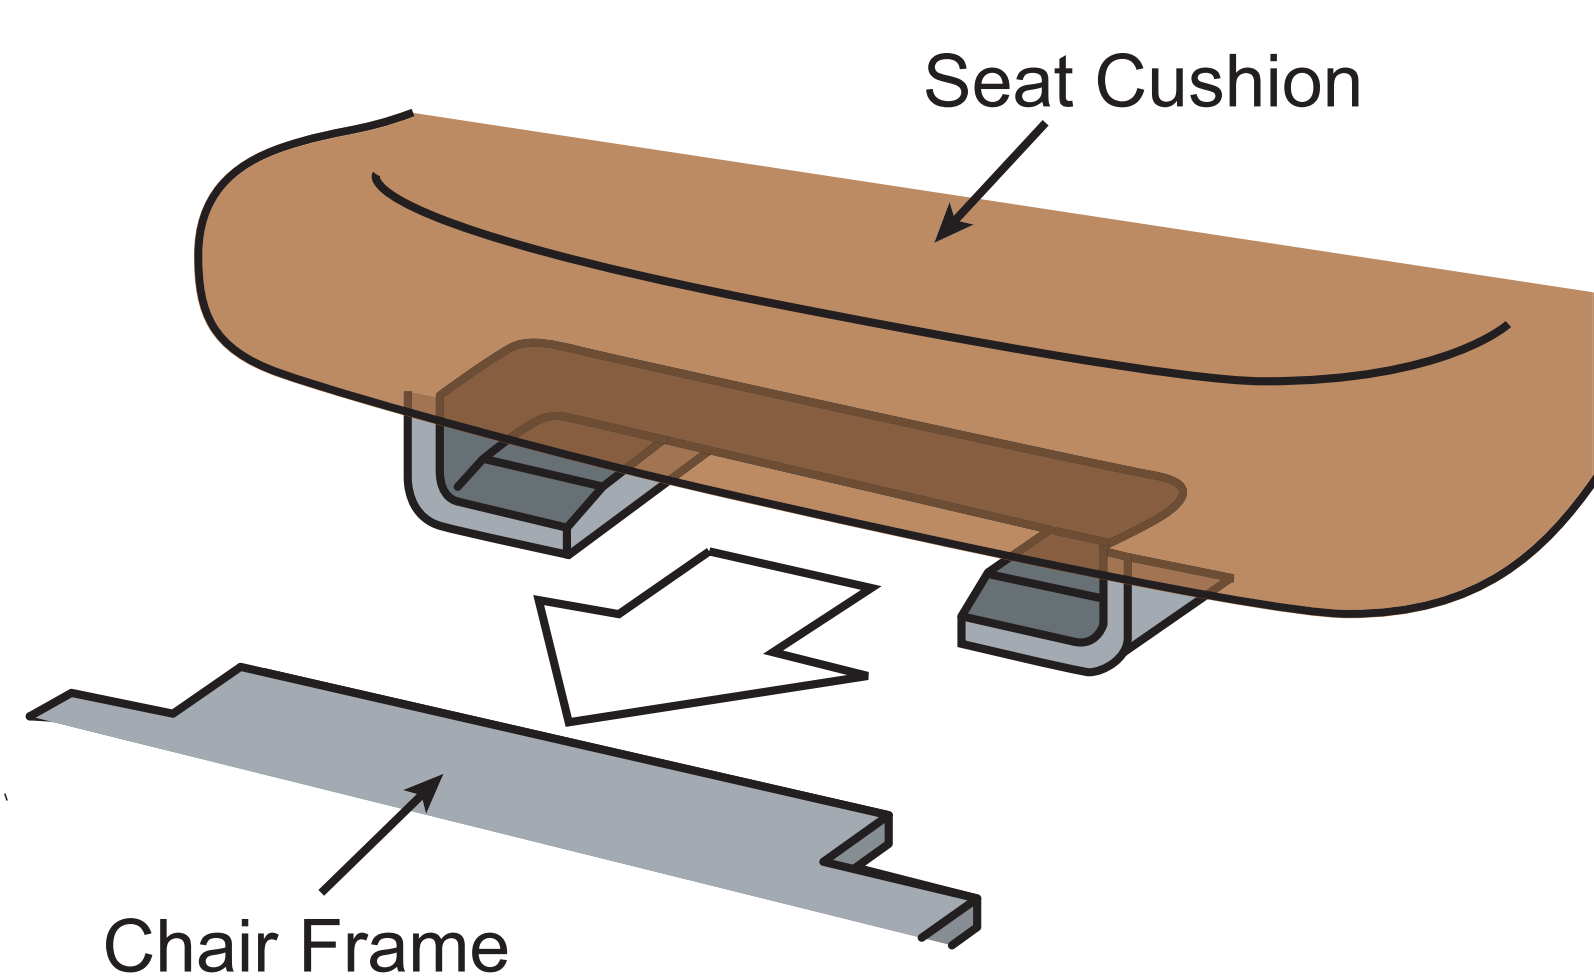

Fig. 5-10
1. Slide the Seat Cushion onto the chair as shown, to hook onto to chair frame. (Fig.5-10)